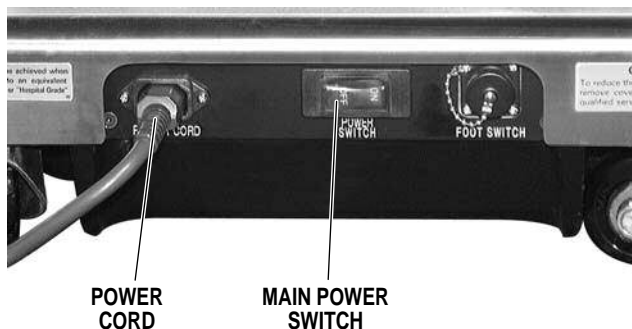

Figure 3-1. Main Power Switch
b. Depress the POWER SWITCH on the electrical panel to supply power to the table. See figure 3-1. The pendant control buttons and the green POWER indicator light on the pendant control should now be illuminated.